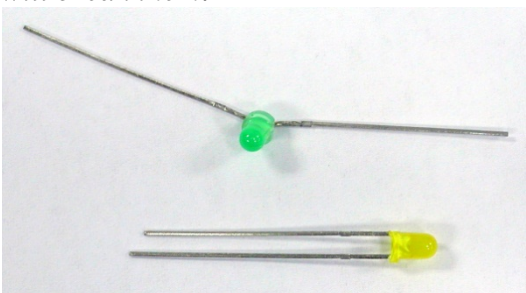

Figure 6: The LED Cathode wire is shorter.
5. Identify the cathode (negative) side of the red, yellow, and green LEDs (doesn't matter for the bicolor). There are four ways to identify the cathode (refer to Figure 6): 1) the wire on the cathode side is shorter, 2) there is a flat spot on the plastic by the cathode (shows clearly on the right of the green LED in Figure 6), 3) if you hold the diode up in front of a light, you will see a triangle...the wide side is attached to the cathode, and 4) if you make a mistake you will find that the diode conducts when the voltage is negative rather than positive.